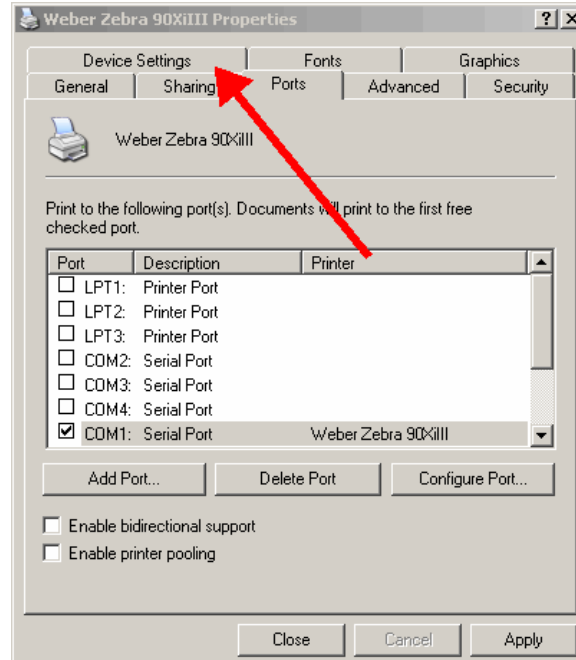

Figure 3-20
3.3.5. Click on the *Device Settings* tab. (Figure 3-20)